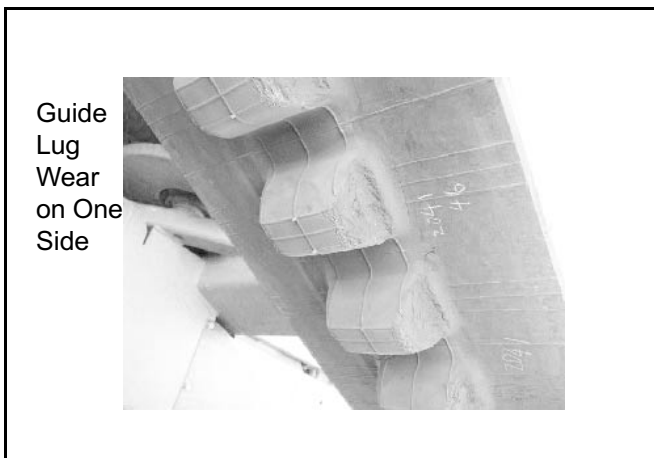

Figure 4 - 35 Rubber Track Alignment
- **Check track alignment.** Rubber track undercarriage component alignment is very important to the life of the track. An easy, quick check is to inspect the track center lugs. (Figure 4 - 35) If one side is worn more than the other side, one or more of the following conditions could exist. Factors such as asphalt build-up on the track inner surface, road crown, track tensioning, etc. If any of the above is present, correct the situation before excessive track wear occurs.